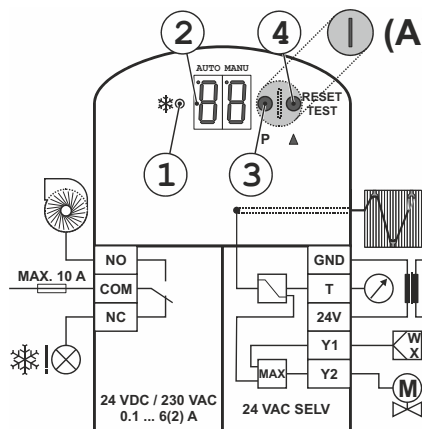

Fig. 3. Connection example
If any portion of the capillary tube is cooled to below the set temperature switch-point, the thermostat automatically switches itself off. Alternately, the thermostat can be adjusted to function as either a monitor or as a limiter (the latter with a manual reset button - see "4" in Fig. 3). The built-in relay contact allows the direct switching of loads of up to 250 VAC, 6(2) A.
All settings on the thermostat can be carried out using two pushbuttons (see "3" and "4" in Fig. 3) accessible after unscrewing a small cover screw (see "A" in Fig. 3). It is not necessary to remove the power supply before carrying out adjustments. The FTSE allows both the switch-point and the operating mode to be selected. The switch-point can be set to between 1 and 10 °C. One has the choice of an operating mode with or without restart lock-out. When selecting the operating mode with restart lock-out, after the set switch-point is reached, the thermostat is locked until manually reset by pushbutton (see "4" in Fig. 3) (however, this is possible only after the temperature has dropped by the switching differential of approx. 2 K). One can also reset the device by removing it from the power supply.